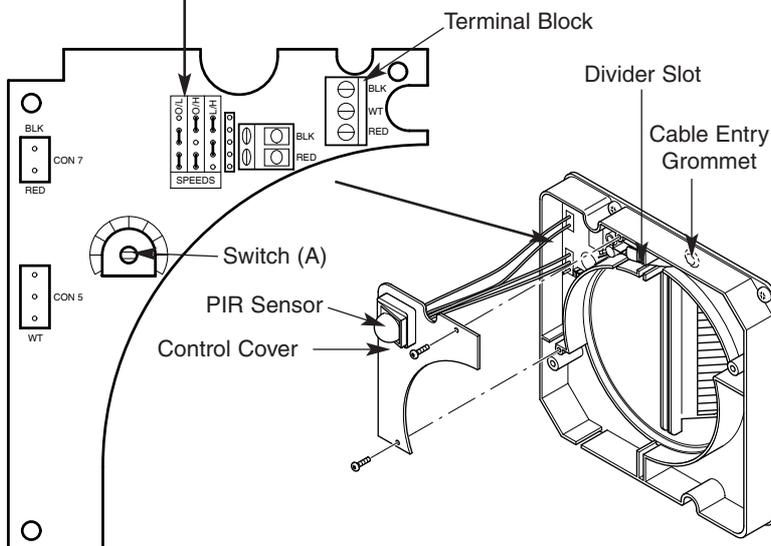

Fig. 29
9. Pass the low voltage cable through the cable entry grommet at the top of the unit (Fig. 29).
11. Carefully loosen the control cover by undoing the two retaining screws. Slowly pull the cover forwards. There are two sets of wires leading from the PIR sensor in the control cover to the control board. Note the position of these wires and unplug them at the control board. Place the control cover to one side (Fig. 29).
14. Ensure that the low voltage cable is routed through the divider slot (Fig. 29).